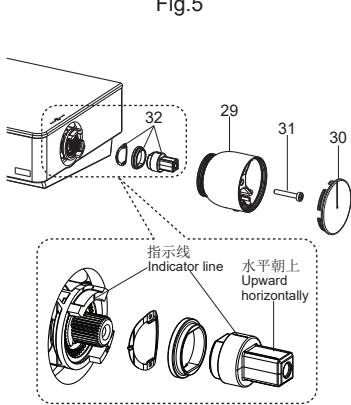

Fig.6
不要转动温控阀轴，将齿套组件(32)上的指示线对准塑料套上的指示线装入。安装温控把手(29)，使温控把手上的按钮垂直朝下。用螺丝刀锁紧螺钉(31)，安装把手上盖(30)(Fig.6)。
Do not turn the cartridge spindle. Install the adapter spline kit(32). Ensure the indicator line on the adapter spline aligns with the indicator line on the stopper. Install the temperature handle(29). Make sure the button on the temperature handle is downward vertically. Tighten the screw(31) with a screwdriver. Install the plug(30)(Fig.6).